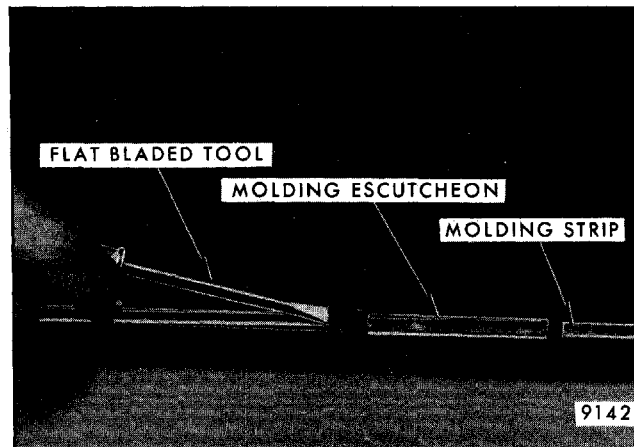

Fig. 11-20-Tailgate Window Molding Escutcheon Installation
8. Install complete molding strip into rubber channel and using a flat-bladed tool, slide escutcheon over molding joint (Fig. 11-20).